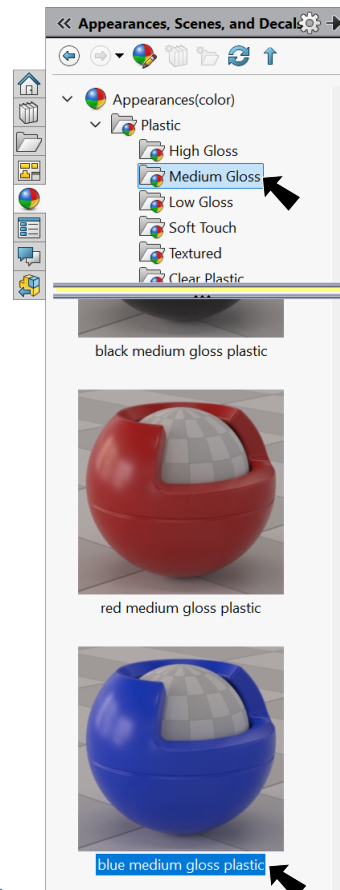

Fig. 41
Step 2. In the Appearances Task pane, expand **Plastic**, click **Medium Gloss** and in the lower pane select **blue medium gloss plastic**, **Fig. 41.**